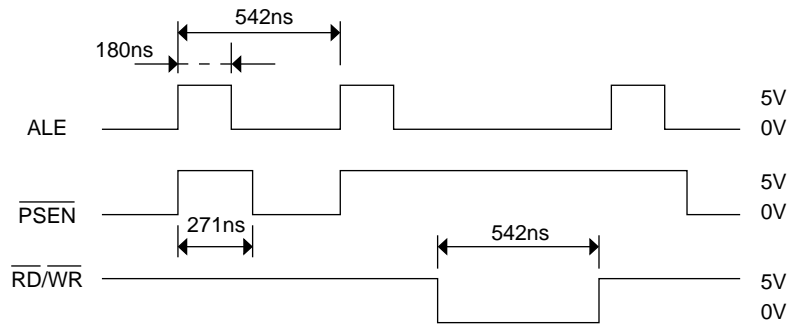

Figure C-3-3
• Yes Are ALE,  $\overline{\text{PSEN}}$ ,  $\overline{\text{RD}}$ ,  $\overline{\text{WR}}$ , signals as specified in Figure C-3-3?